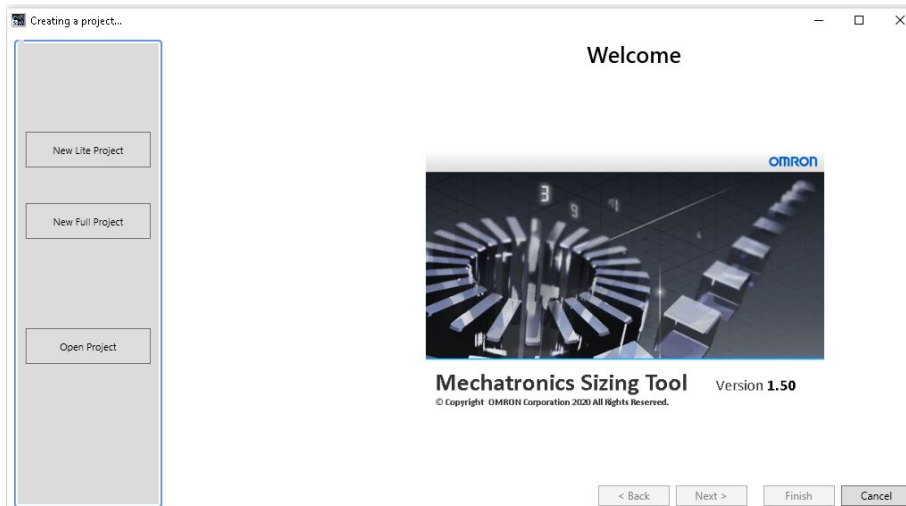

Fig. 6 Welcome Window
- **Welcome Step:** asks for 'New Lite project', 'New Full project' or 'Open project'. See Fig. 6.